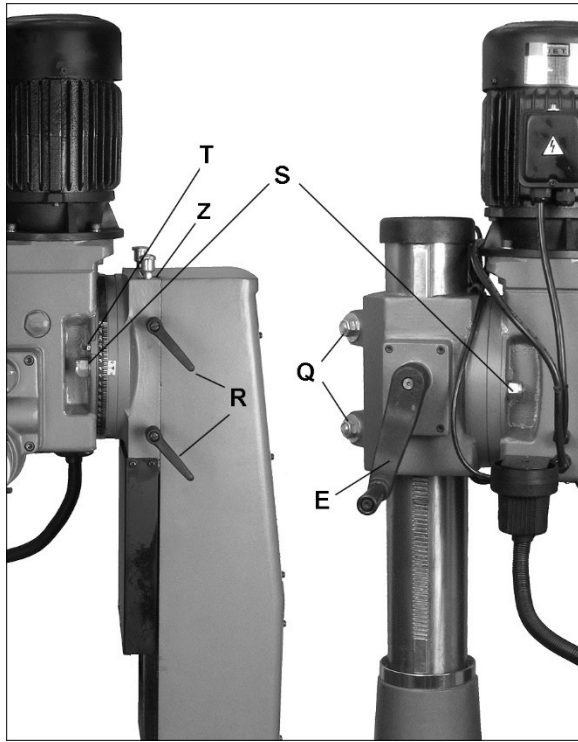

Figure 7-2: head adjustments
1. Screw three downfeed handles (F) into hub and tighten. Flat spot on rod accommodates an open or adjustable wrench. **Note:** Handle shafts are already installed into hub on powerfeed models.
2. Slide crank (E) onto shaft of column (see Figure 7-2) and tighten set screw. Make sure set screw seats on flat part of shaft.
3. Thread handle (D) into crank and tighten nut.
4. Slide handwheels (A) onto shafts at front and both ends of table. If needed, tap with rubber mallet to seat handwheels onto shafts. Tighten set screws.
5. Thread handle (D) onto each handwheel and tighten nut.
6. Loosen lock handles/nuts (Q or R, Figure 7-2) and raise head using crank (E) to remove shipping block from table.
See Figure 7-2.
A Z-axis gib adjustment screw is located atop the square column near oil cup (see Z, Figure 7-2). Follow same principle as described under sect. 7.4.1. Slight drag should be felt when turning crank handle.